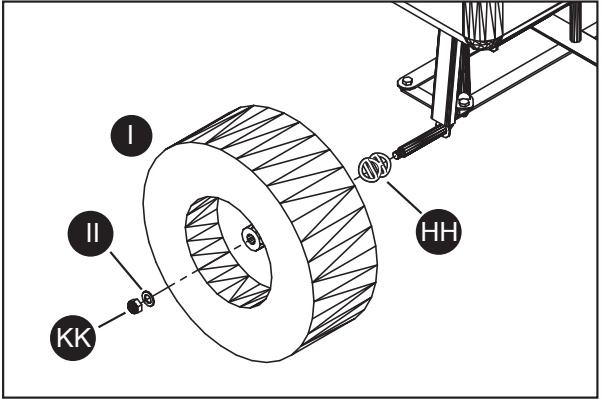

Fig. 10
8. Attach the four wheels (I) by first placing the wheel spacers (HH) onto each axle, then the wheels (I) and M12 flat washers (II), and M12 lock nuts (KK), as shown in Fig. 10.